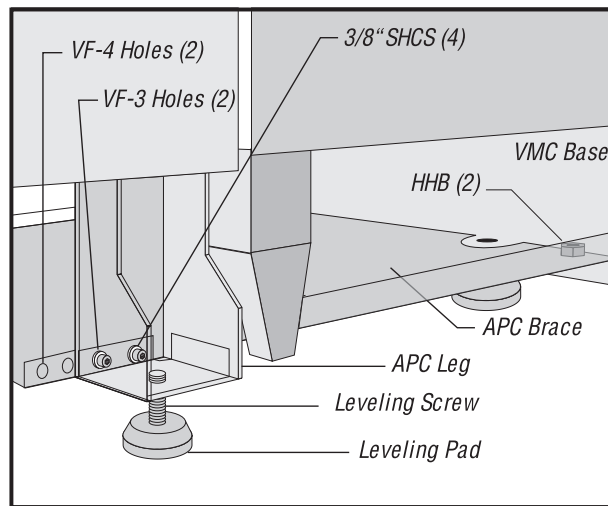

Figure 11.20 Installing the APC brace (VF-3 shown).
11. Attach the APC brace to the VMC and the APC with six screws (four 3/8" screws in the APC legs and two 1" screws in the VMC base), but DO NOT TIGHTEN (see Figure 11.20). The VF-3 uses the two holes in the brace that are closest to the VMC, while the VF-4 uses the two holes farthest from the VMC.